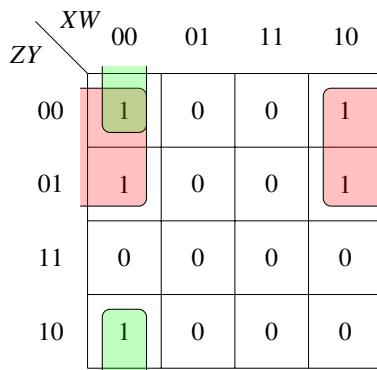

Fig. 4.1: K-map for  $A$
3. K-Map for  $A$ : The expression in (4.1) can be minimized using the K-map in Fig. 4.1
In Fig. 4.1, the *implicants* in boxes 0,2,4,6 result in  $W'Z'$ . The implicants in boxes 0,8 result in  $W'X'Y'$ . Thus, after minimization using Fig. 4.1, (4.1) can be expressed as